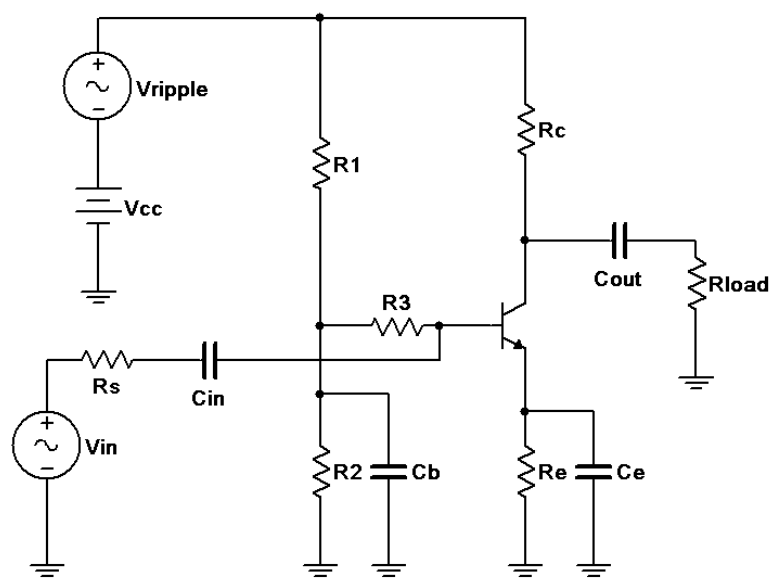

Figure 2
12. One issue with amplifiers is noise and ripple on the power supply. This will be directly coupled to output of the circuit via the collector resistor. Worse, this noise or ripple may be coupled into the base and then amplified along with the desired input signal. This can be an issue with amplifiers that use a voltage divider bias. One way to reduce this effect is to decouple the voltage divider from the base. This modification is shown in the circuit of Figure 2. C_b effectively shorts R_2 , sending power supply noise and ripple to ground instead of into the base. By itself this would also short the desired input signal so an extra resistor, R_3 is added between the capacitor and the base. The input impedance of the circuit is approximately equal to R_3 in parallel with $\beta r'_e$. To show the effectiveness of this technique, build the circuit of Figure 2 in a simulator. Use values of $V_{in} = 20$ mV peak at 1 kHz, $V_{ripple} = 20$ mV peak at 120 Hz, $V_{cc} = 12$ volts, $R_s = 1$ k Ω , $R_1 = 10$ k Ω , $R_2 = 3.3$ k Ω , $R_3 = 22$ k Ω , $R_e = 4.7$ k Ω , $R_c = 3.3$ k Ω , $R_{load} = 1$ k Ω , $C_{in} = C_{out} = 10$ μ F, $C_b = 100$ μ F and $C_e = 470$ μ F. Run a Transient simulation and look at the load voltage. A very small low frequency variation should be noted. This is the 120 Hz ripple coupled in through the collector resistor. Alter the circuit by removing C_b and R_3 to produce the basic voltage divider circuit (or more simply, set C_b and R_3 to extremely small values such as pF and m Ω). Rerun the simulation. The load voltage should now show a much more obvious ripple contribution, thus showing how effective the power supply decoupling components can be.